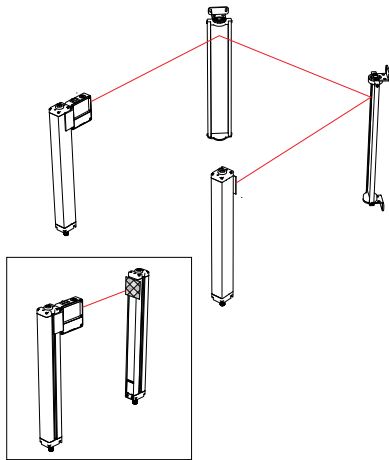

Figure 20. Optical alignment using the LAT-1-SGS
**Note:** A LAT-1-SGS Laser Alignment Tool is very helpful by providing a visible red dot along the optical axis. See Figure 20 (p. 37) and Banner Safety Applications Note SA104 (p/n 57477) for more information.